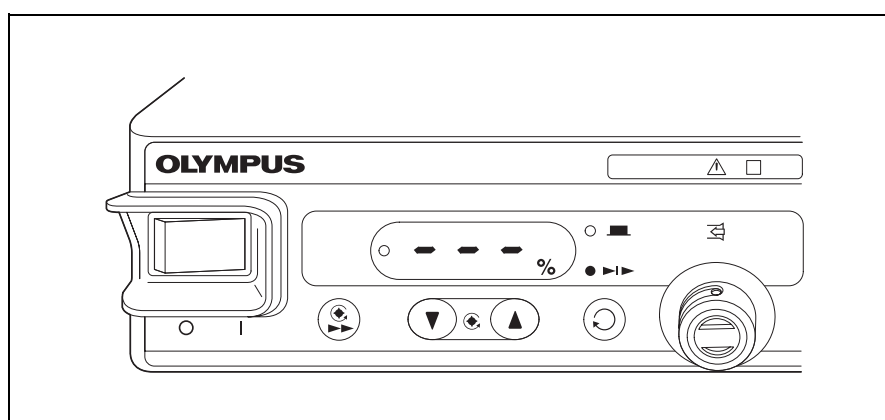

Figure 3.8
- When the SonoSurg generator is in stand-by mode, the ultrasonic output and setting operations cannot be controlled. When the SonoSurg irrigation unit is connected to the generator, it also goes into stand-by mode when the generator in stand-by mode. Confirm that “— —” is displayed on the irrigation level setting indicator (see Figure 3.8).